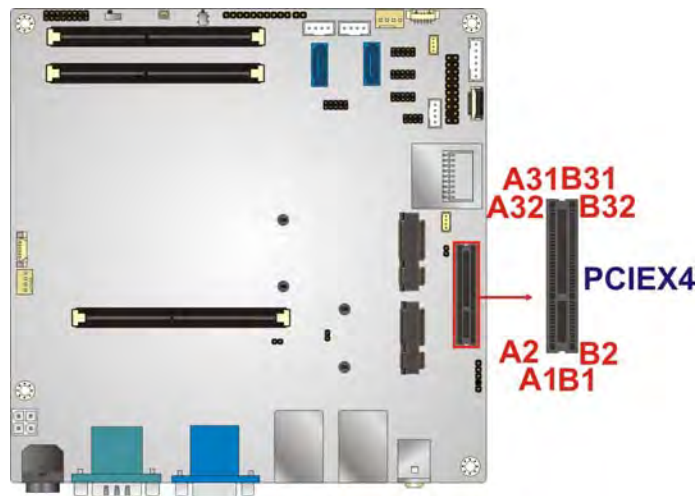

Figure 3-16: PCIe x4 Slot Location
- CN Location: See **Figure 3-16**